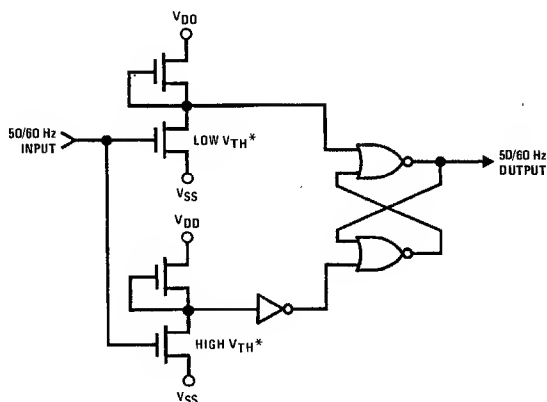

FIGURE 3. 50/60 Hz Input Shaping Circuit
**50 or 60 Hz Input:** A shaping circuit (*Figure 3*) is provided to square the 50 or 60 Hz input. This circuit allows use of a filtered sine-wave input. The circuit is a Schmitt trigger that is designed to provide about 0.8V hysteresis. A simple RC filter such as shown in *Figure 7*, should be used to remove possible line-voltage transients that could either cause the clock to gain time or damage the device. The shaper output drives a counter chain which performs the timekeeping function.